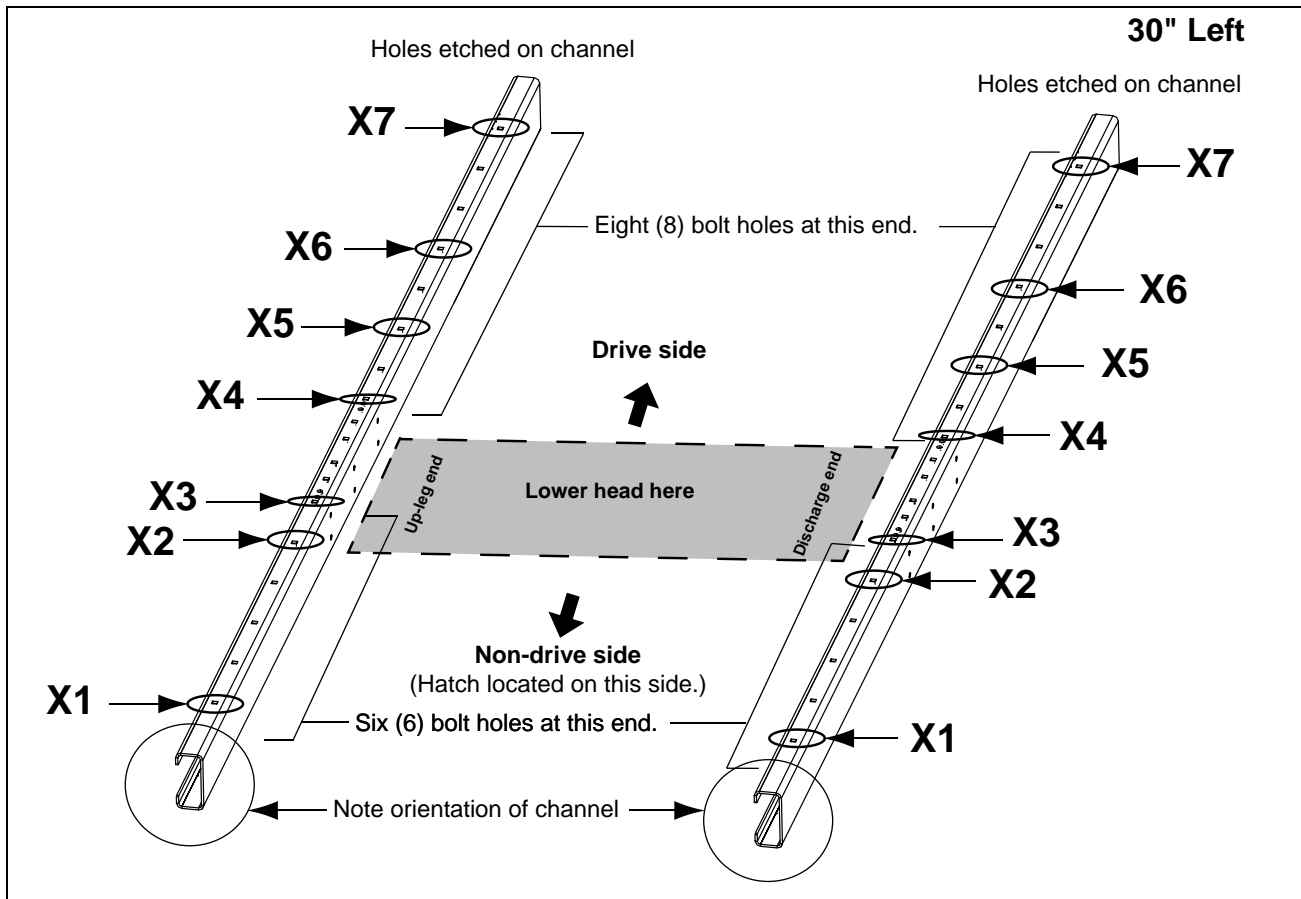
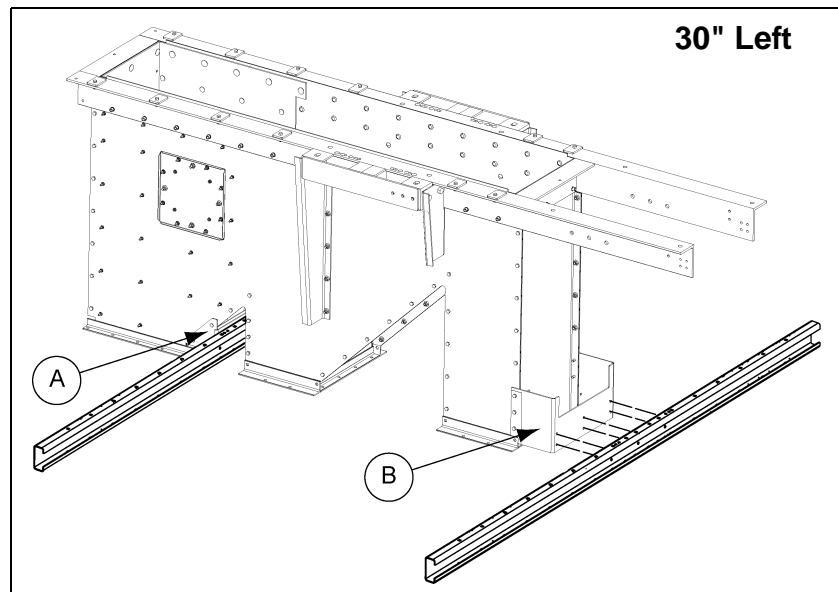

Figure 9B 30" Left Side Drive Channel Position
Figure 9C 30" Left Drive - Cross Deck Support Channels to Lower Head Brackets
(See Figure 9B on Page 65.)
3. Attach cross deck support channels (HP36DSCX) to the top-most set of holes of the lower head brackets (HSP36130) using 3/8" x 1" bolts and nuts. (See Figure 9C on Page 65.)
***NOTE:** The channels *MUST* be oriented as shown in Figure 9B and Figure 9C on Page 65 in order for the decking and subsequent assembly to be done correctly.